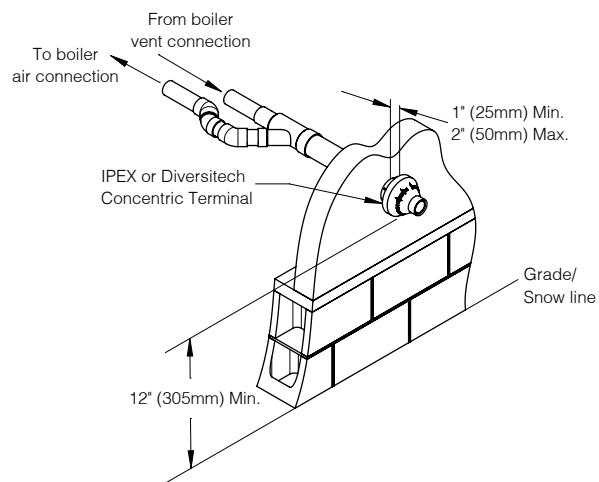

Figure 8-10: CPVC/PVC Concentric Terminal
1. Concentric vent terminals listed in Table 8-9 may be used to terminate air and vent outside building per Figure 8-10. Both air and vent pipes must attach to terminal kit.